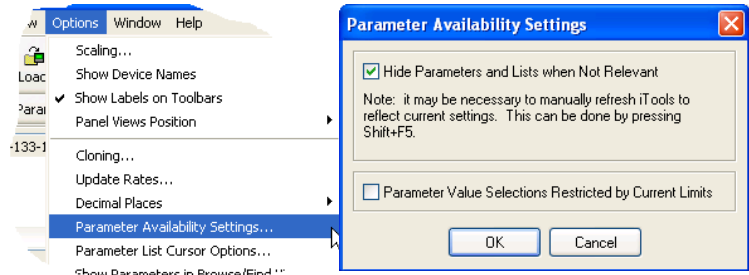

Figure 3.4.1b Show/Hide parameters
- Hidden Parameters. By default, iTools hides parameters which are considered irrelevant in the current context. Such hidden parameters can be shown in the table using the 'Parameter availability' settings item of the options menu (figure 3.4.1b). Such items are displayed with a shaded background.